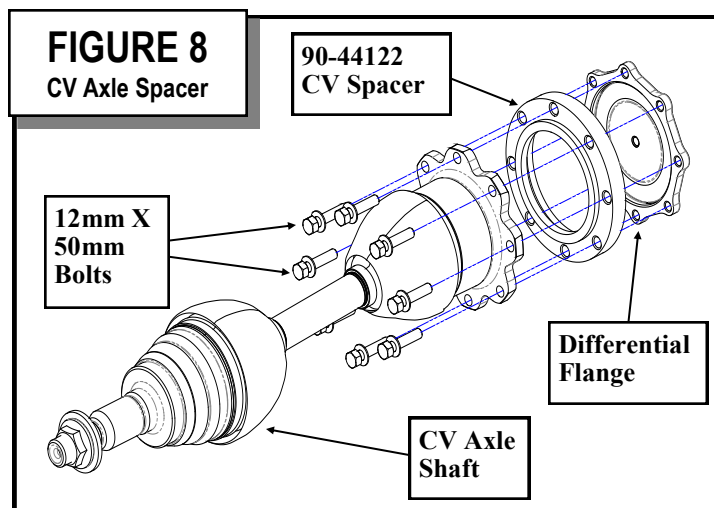

FIGURE 8
53. Place one of the CV spacers (**90-44122**) between the front differential drive flange and the CV. Use the **12mm X 50mm** bolts and washers provided in hardware pack (**90-60773**) through the CV and spacer and into the differential drive flange. Be sure to use thread lock compound on the bolts. See FIGURE 8. Torque the CV spacer bolts to 75 ft-lbs. in a criss-cross pattern.